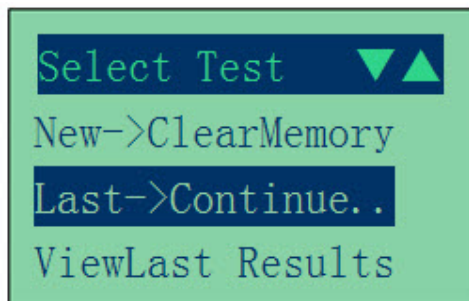

Figure 4
2. It will run through a self-test and when completed it displays the Main Menu as shown: (Fig. 4)